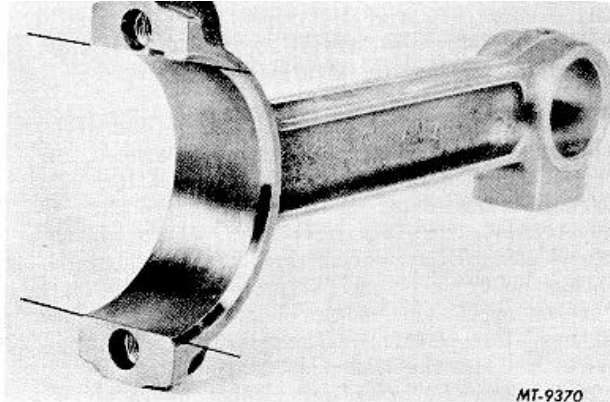

Fig. 76
2. Straightness: The connecting rod bore taper should not exceed .0005", Fig. 76.